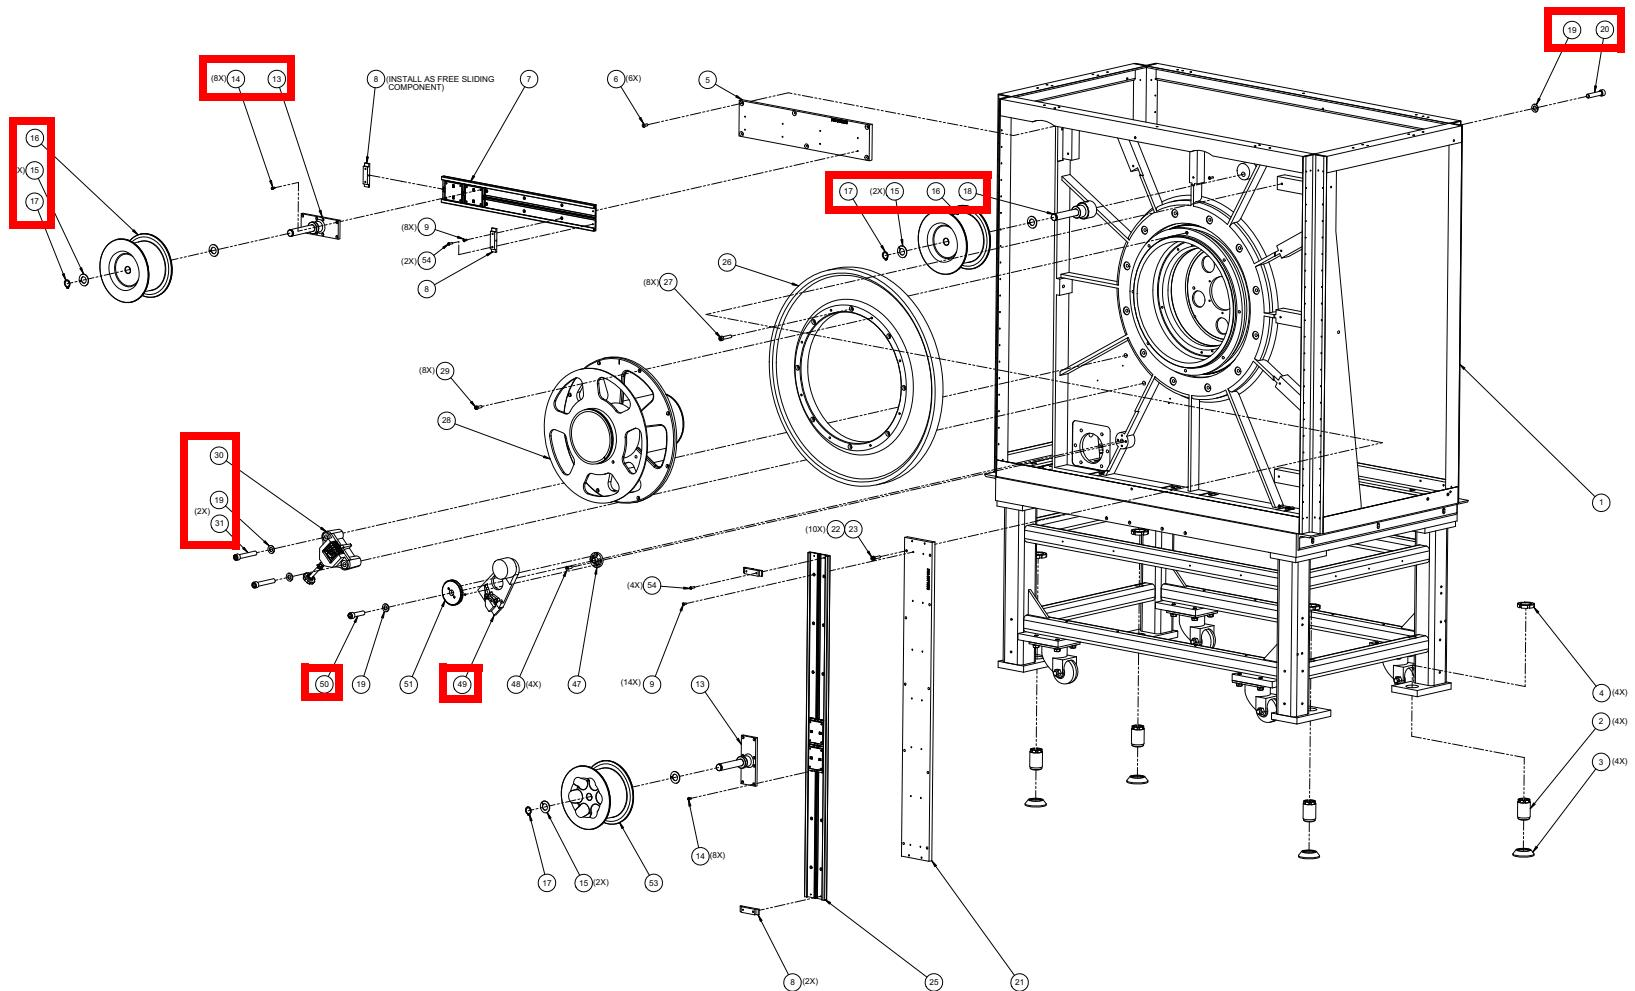
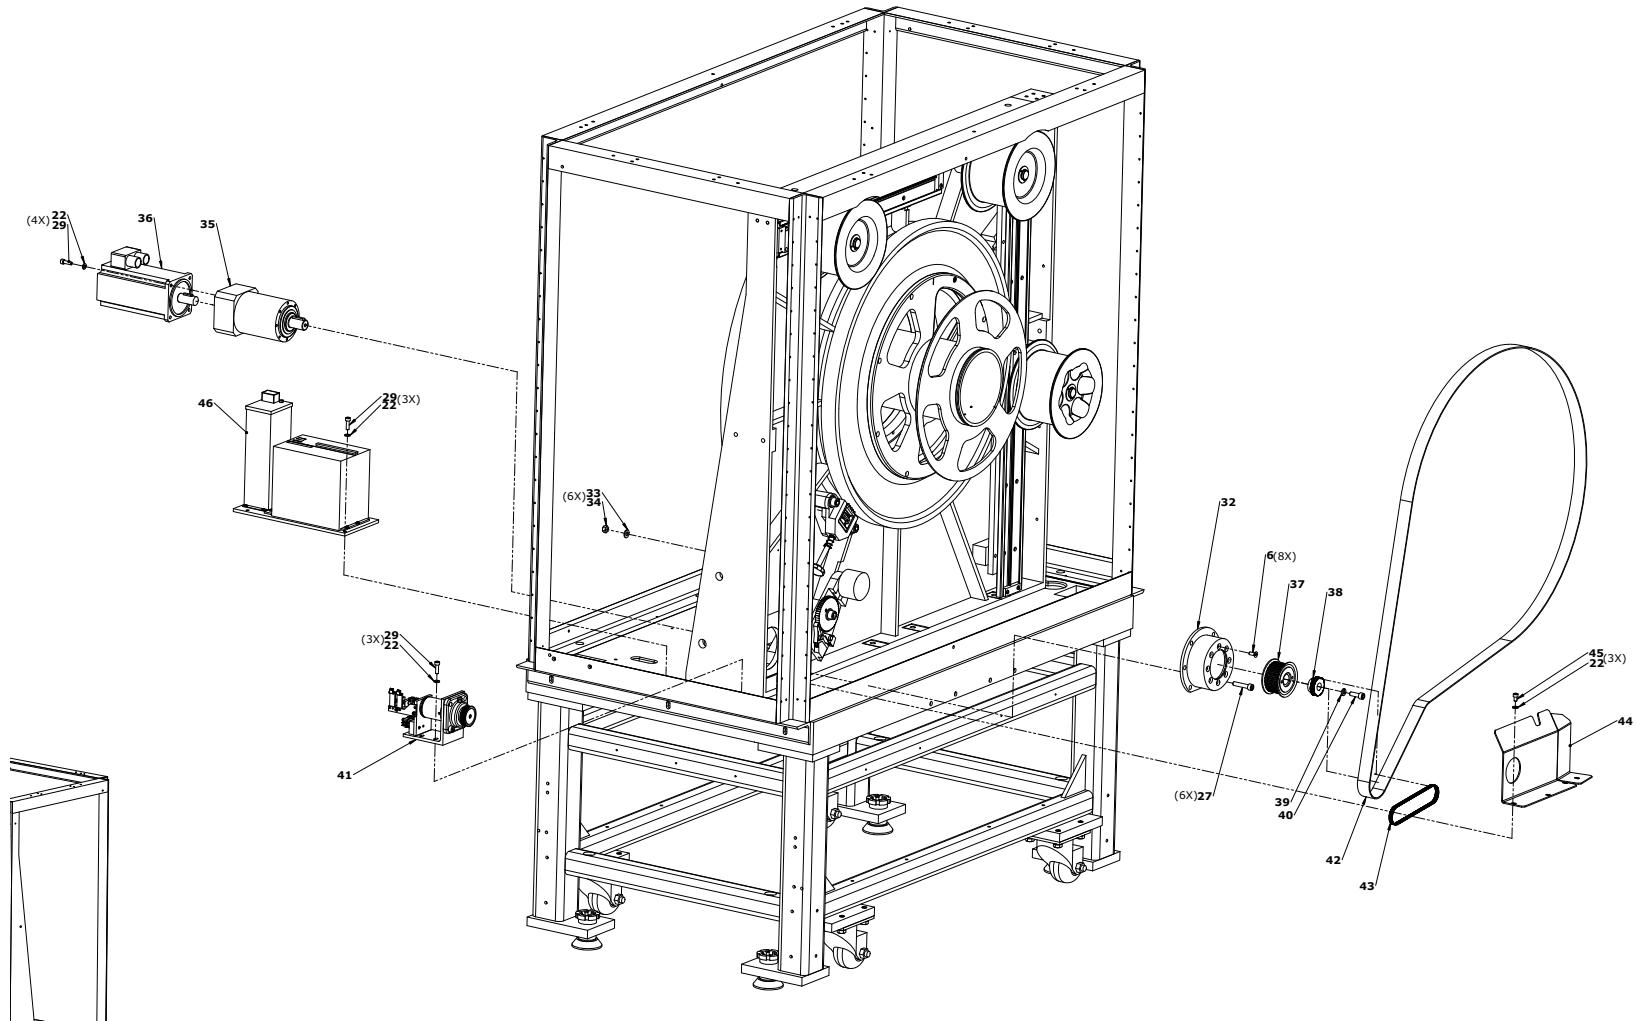

Figure 5-63
Figure 5-64
See Figure 5-63.
See Figure 5-64.
Refer to Figure 5-64.
2. Refer back to Figure 5-64. Remove connections from top side of Servo Motor (Item 36 and photo at right).
4. Remove four (4) M6 socket screws (2109867-14, Item 29) and flat washers (2109878-3, Item 22) while supporting the Servo Motor. Pull Motor away from Baldor Planetary Gearhead (Item 35) and set hardware aside.
4. Refer back to Figure 5-63. Loosen M12 cap screw (2390619, Item 50) enough to allow the Drive Belt Tensioner (Item 49) to rotate and relieve tension on the HTD Timing Belt (Item 42 in Figure 5-64). Un-loop Belt from 26 Tooth Pulley (5175750, Item 37).
6. Remove eight (8) M6 countersunk screws (2109884-13, Item 6) from Baldor Gearbox Mounting Bracket (Item 32) while supporting the Planetary Gearhead. Remove Gearhead and set hardware aside.
1. Mount replacement Planetary Gearhead with M6 screws set aside earlier. Ensure housing of Gearhead is oriented as shown in Figure 5-64, with the Servo Motor mounting flange square to the base. Torque screws to 70 in-lb.